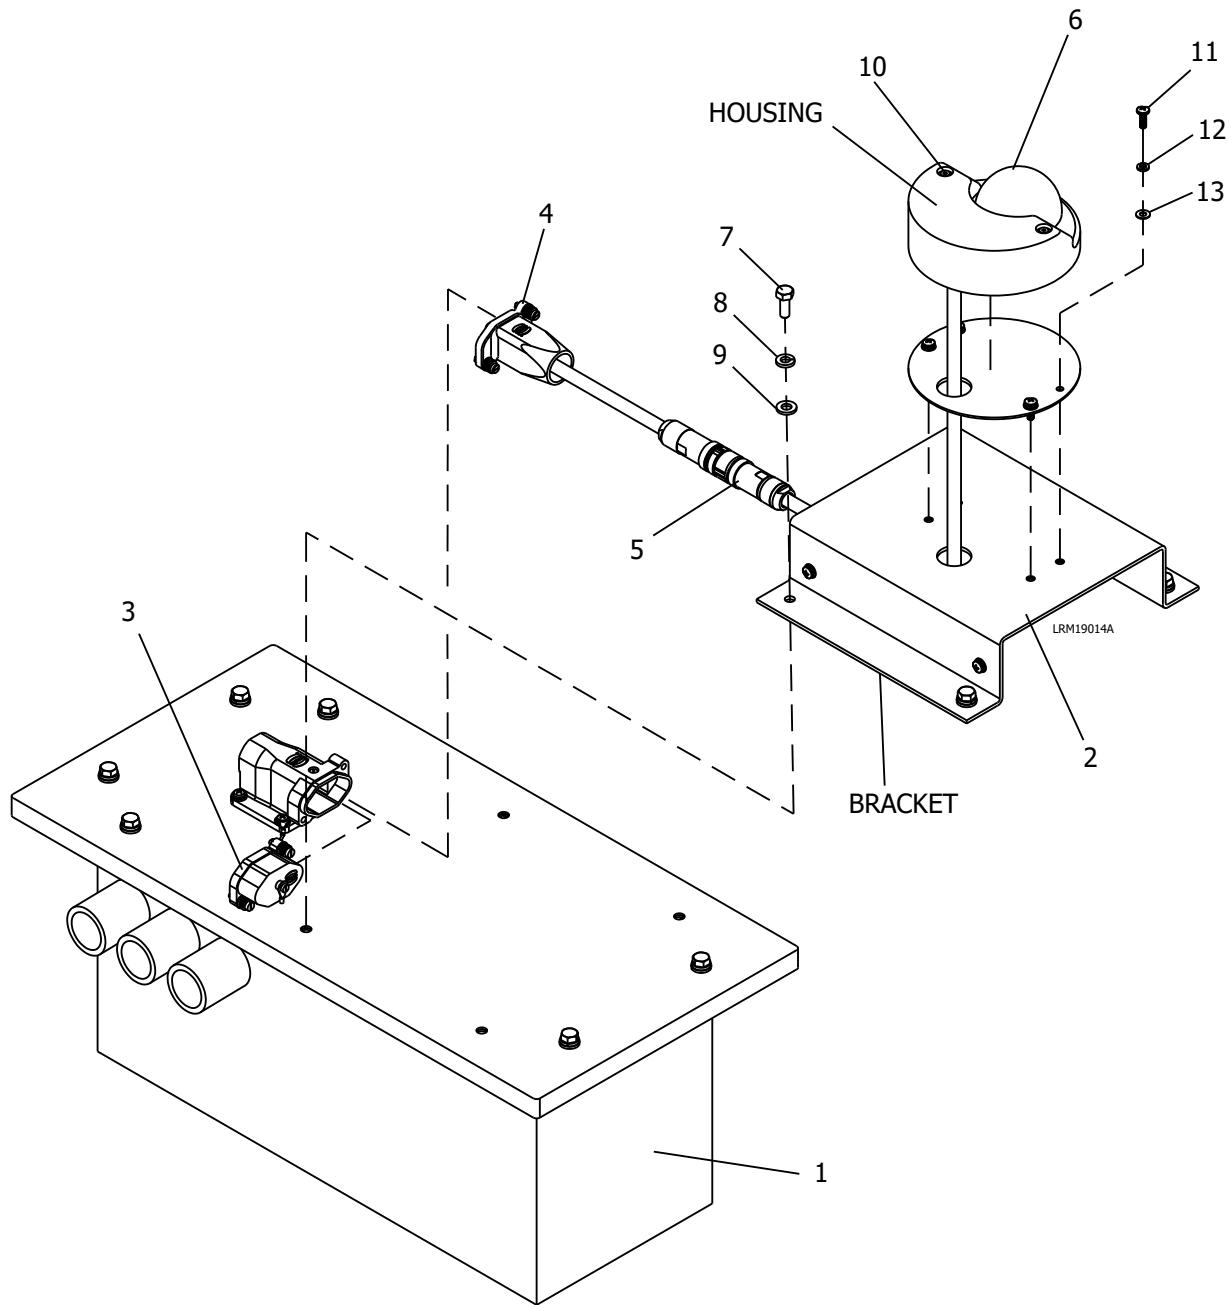

Figure 7-6: Roof Mounted Camera
1. Disconnect the electrical connection (4) from the receptacle. See Figure 7-6.
2. Remove the four M6 x 16 bolts (7), M6 lock washers (8), and M6 plain washers (9).
3. Carefully remove the Roof Mounted Camera Assembly from the roof junction box (1).
4. Install the four M6 plain washers (9), M6 lock washers (8), and M6 x 16 bolts (7), that were removed in step 2 above. Torque the bolts to 6.9 Nm (5 ft-lbs.).
5. Install the dust cover (3) onto the receptacle.